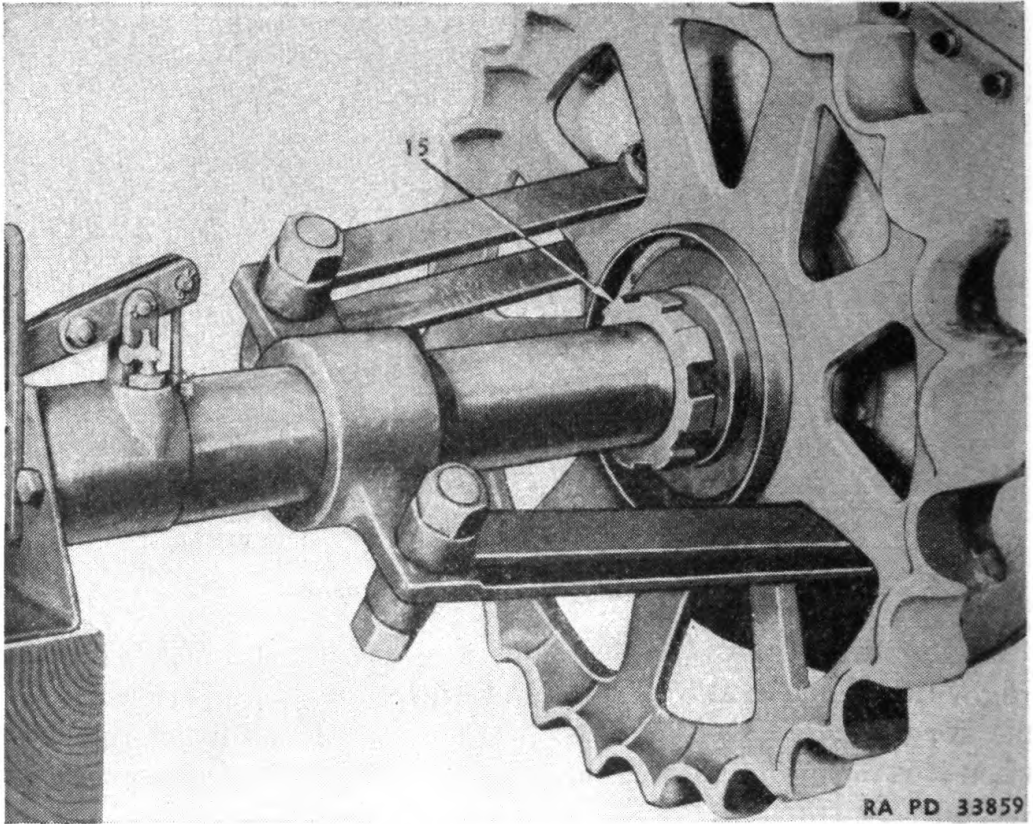

FIGURE 142.—Puller arrangement for sprocket removal.
d. Sprocket removal.—(1) Replace sprocket retaining nut (15) (fig. 142) on the final drive gear hub with some space between it and the sprocket. This will prevent the sprocket jumping off the shaft when it is removed. Attach the sprocket puller arrangement as shown and pull the sprocket.